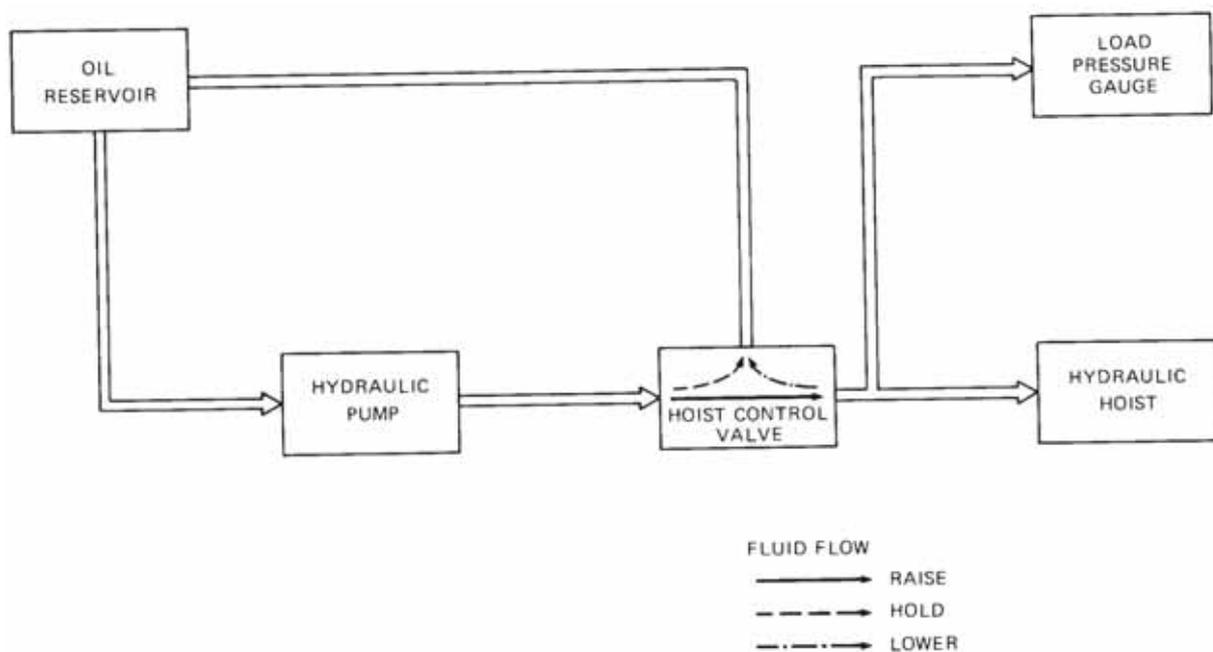

Figure 15 Hoist Hydraulic Circuit
30. Figure 15 illustrates the dump body hoist hydraulic fluid circuit in a simplified form. Hydraulic fluid is drawn from the oil reservoir and pumped to the hoist control valve by the hydraulic pump. Depending on the position of the hoist control knob on the PTO/ hoist control box, fluid will flow straight to the hydraulic hoist (RAISE), straight back to the oil reservoir (HOLD), or from the hydraulic hoist to the oil reservoir (LOWER).